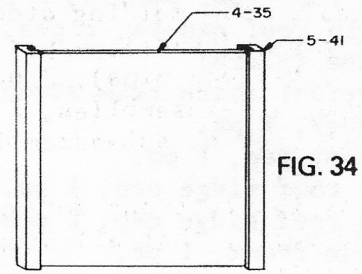

FIG. 35
- Figure 35 shows the proper locations of the room partitions. Measure and mark the locations on the floors and ceilings to ensure that the partitions are installed vertically and straight.